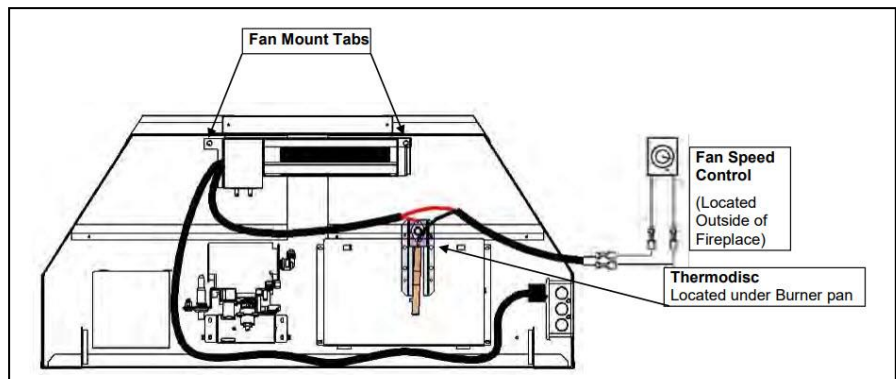

Fig. 2
- c. To install the fan from the side of the unit, remove the two screws in the Fan Access Cover on the left side of the fireplace. Bend the cover up and pull bottom tab down. Insert fan through opening as shown. Mount fan on tabs in bottom of fireplace. Connect fan as per wiring diagram below (**Fig. 2**). Re-install all components.